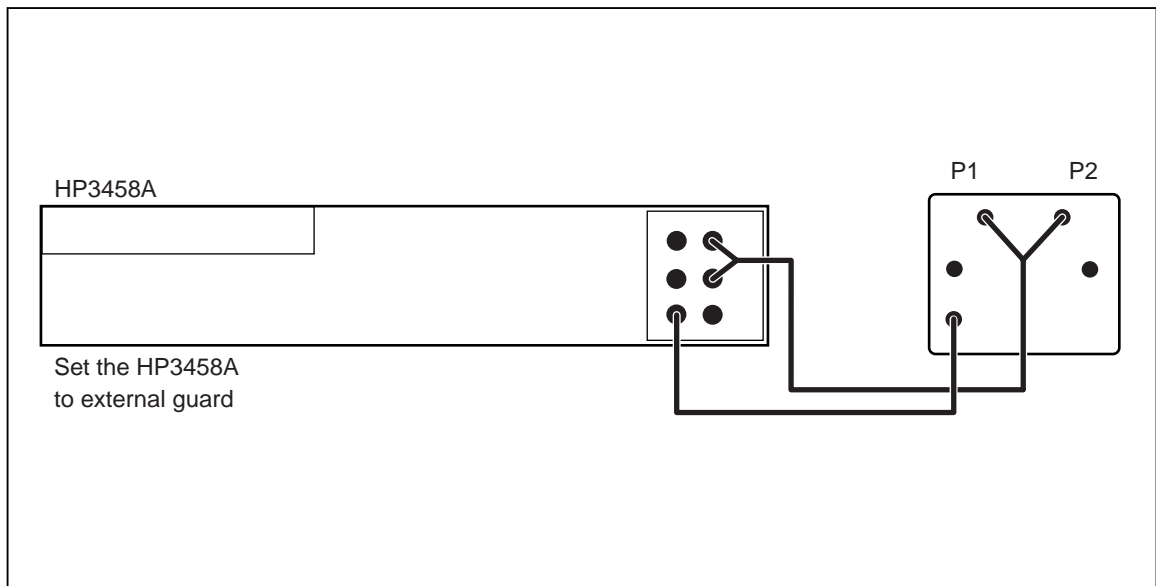

Figure 3-13. Scaling the DMM to a Guildline 9334
12. Disconnect the DMM from the UUT, and connect it to the Guildline 9334/100M Resistance Standard as shown in Figure 3-13. Scale the 100 M Ω DMM range to the Resistance Standard as described in the HP3458A user documentation.